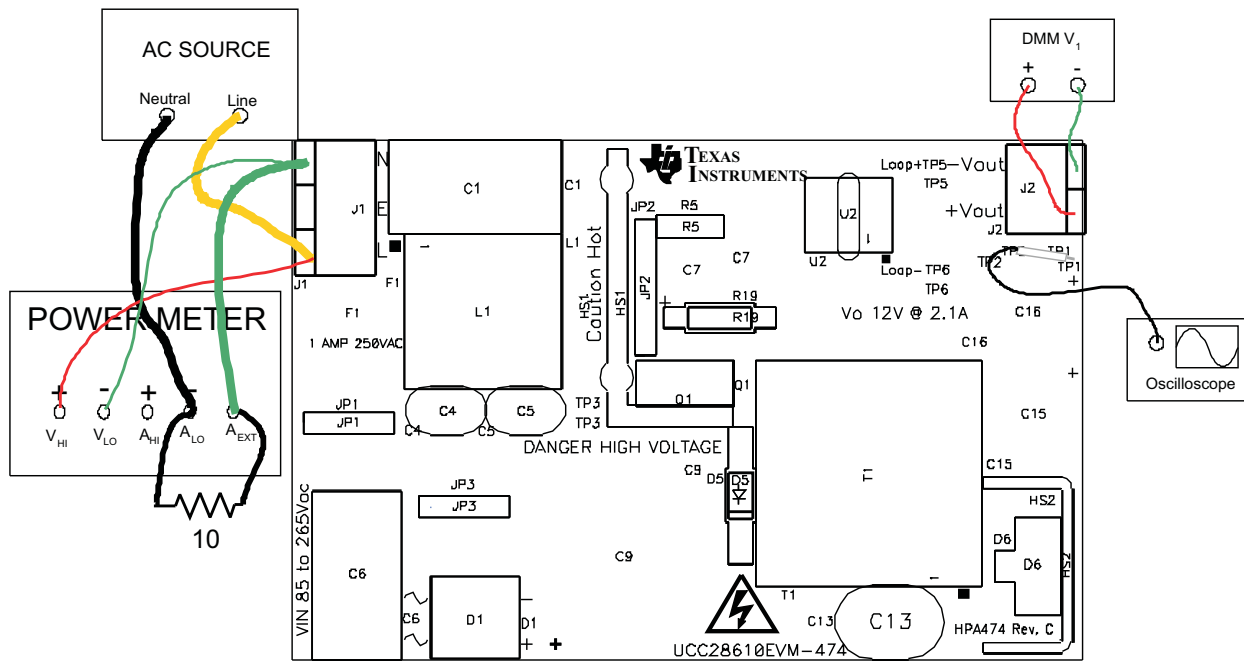
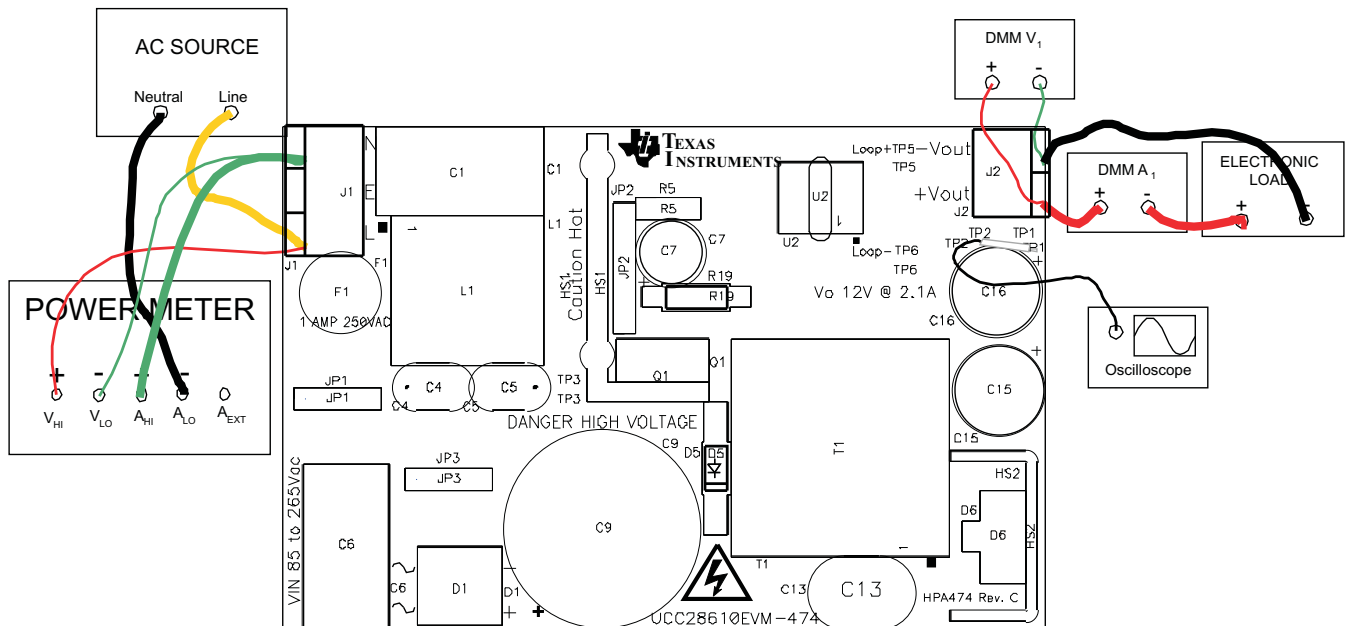

Figure 3. UCC28610EVM-474 Recommended Test Set Up Without a Load
Figure 4. UCC28610EVM-474 Recommended Test Set Up With a Load
Figure 2 shows the equipment set up when measuring the input power consumption during no load. Note the addition of the 10- Ω shunt resistor in Figure 3. During the no-load test, the power analyzer should be set for long averaging in order to include several cycles of operation and an appropriate current scale factor for using the external shunt must be used. Figure 3 shows the basic test set up recommended to evaluate the UCC28610EVM-474 with a load.
See Figure 3 and Figure 4 for recommended test set ups.
- **AC Input Source:** The input source shall be an isolated variable AC source capable of supplying between 85 V_{RMS} and 265 V_{RMS} at no less than 30 W and connected as shown in Figure 3 and Figure 4. For accurate efficiency calculations, a power meter should be inserted between the neutral line of the AC source and the Neutral terminal of the EVM. For highest accuracy, connect the voltage terminals of the power meter directly across the Line and Neutral terminals of the EVM.
- **Load:** For the output load, a programmable electronic load set to constant current mode and capable of sinking 0 to 3 A_{DC} at 12 V_{DC} shall be used. For highest accuracy, V_{OUT} can be monitored by connecting a DC voltmeter, DMM V_1 , directly across the +Vout and -Vout terminals as shown in Figure 3 and Figure 4. A DC current meter, DMM A_1 , should be placed in series with the electronic load for accurate output current measurements.
- **Power Meter:** The power analyzer shall be capable of measuring low input current, typically less than 10 mA, and a long averaging mode if low power standby mode input power measurements are to be taken. An example of such an analyzer is the Voltech PM100 Single Phase Power Analyzer. To measure the intermittent bursts of current and power drawn from the line during no-load operation, an external 10- Ω shunt, with a current scale factor of 10 A/V, was used at a high sample rate over an extended period of time in order to display the averaged results (refer to Figure 3).
- (a) If no-load input power measurements are to be made, set the power analyzer to long averaging and external shunt mode. Insert a shunt, such as a 10- Ω resistor as shown in Figure 3, in series with the Neutral terminal of the EVM. Set the appropriate current scale on the power analyzer.
- (b) For operation with a load, as shown in Figure 4, set the electronic load to constant current mode to sink 0 A.
1. Use the test set up shown in Figure 3.
- (a) Use the test set up shown in Figure 4.